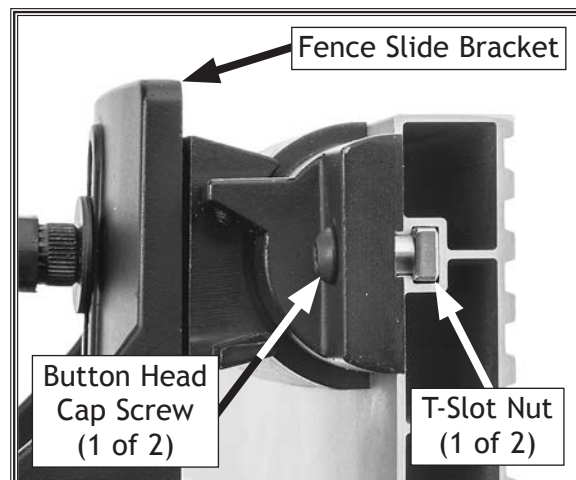

Figure 10. Button head cap screws and T-slot nuts installation.
2. Install (2) M6-1 X 16 button head cap screws and (2) 7mm T-slot nuts on fence slide bracket (see **Figure 10**). DO NOT tighten at this time.